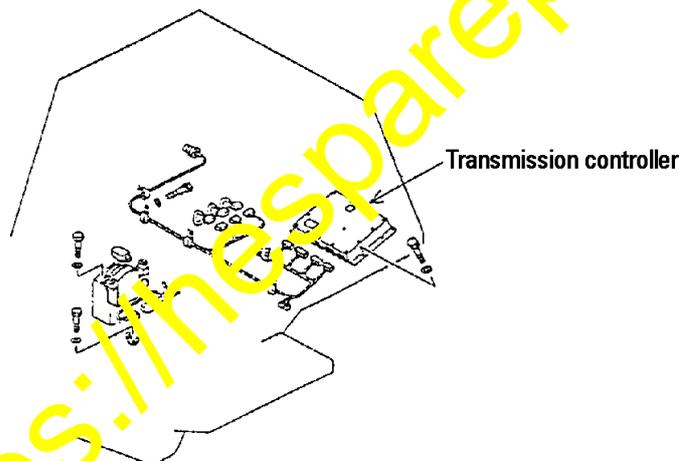
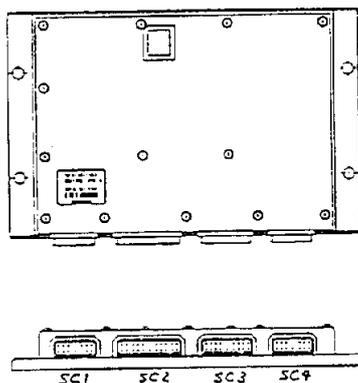

Fig. 9
Fig. 10
- (1) Park the vehicle on a level surface, apply the parking brake, turn off the starting key and insert tire blocks.
- (2) Open the controller box cover located behind the operator's seat inside the operator's cab and disconnect all the transmission controller connectors (refer to Fig. 9 and Fig. 10).
- (3) Unscrew the mounting bolts (4 bolts) for the transmission controller to remove the controller (refer to Fig. 9).
- (4) Install the new transmission controller (7818-56-7000) on the chassis using the mounting bolts.
When doing this, carefully check the connector numbers of the harnesses and their connection points (refer to Fig. 10).